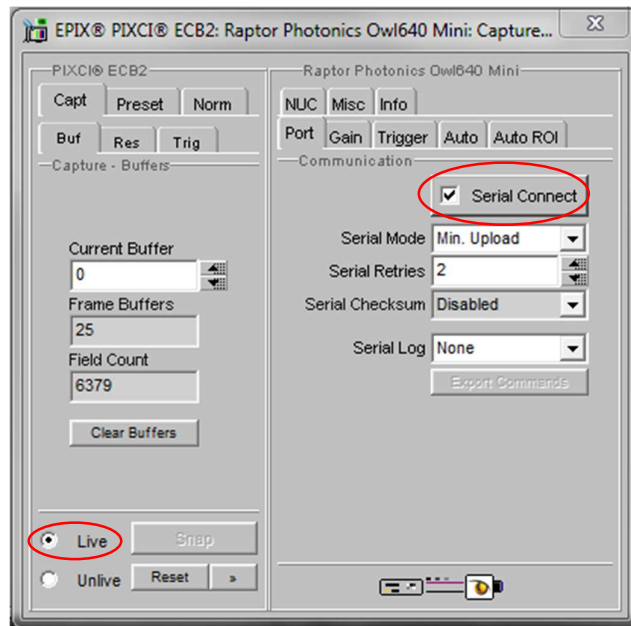

Figure 5: Image Capture
10. Check the Serial Connect box (to establish serial communication to the camera). This should contain a tick (as circled in Figure 5).
11. Check the live button (as circled in Figure 5).